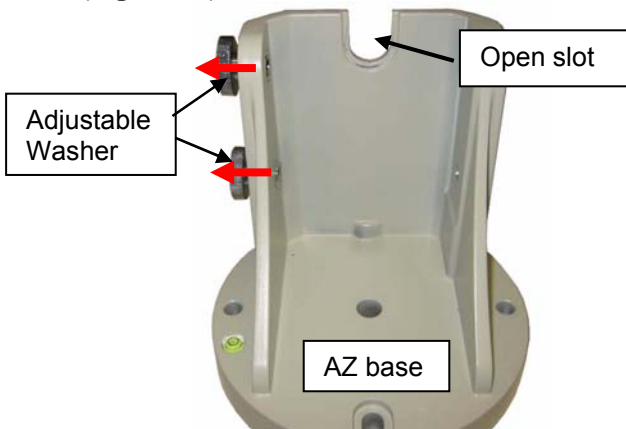

Figure 20
22. Retract two Adjustable Washers on the AZ base (Figure 20).